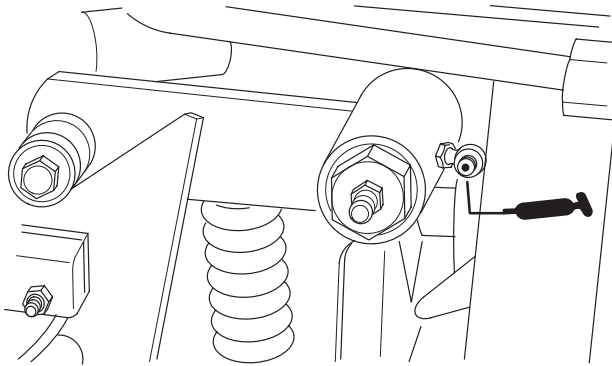

Figure 15
- Traction control linkage (Fig. 15)